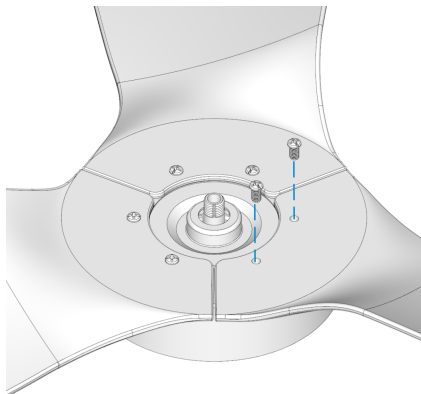

Fig. 2.2
2.2 Align two blade holes with the corresponding screw holes on the motor head, and secure the blades using the blade screws, as illustrated in Fig. 2.2.